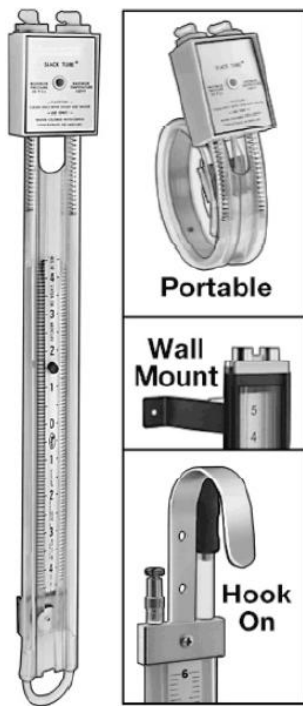

Figure 2.22 Manometer
4. Manometers can be purchased through online retailers and local suppliers. (See Figure 2.22)